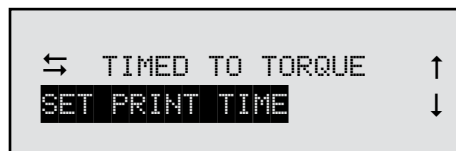

Figure IV-29
This option is used to set the print time interval to the selected printer. Scroll to Set Print Time, as shown in Figure IV-29:
Note: The value for minutes or seconds must be other than zero (0) or you will print continuously when you exit this mode. A press of the MOTOR ON/OFF/ESCAPE key would exit this option and take you back to the screen of Figure IV-29.
Continued pressing of the OPTIONS/TAB key will toggle between the minutes and seconds input screens. Press the ENTER/AUTORANGE key to accept the new values for print interval in minutes and seconds. You will now be in the screen display of Figure IV-29 where you may re-enter the print interval mode, or exit to the default screen (Figure II-5) by pressing the MOTOR ON/OFF/ESCAPE key.